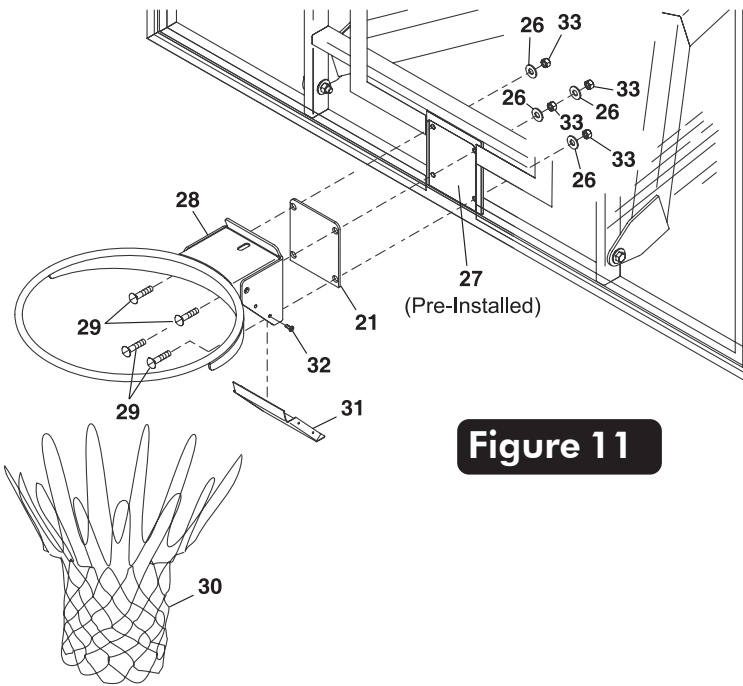

Figure 11
- Remove protective backboard covering and mount Goal Assembly (#28) and Rim Pad (#21) to Spacer Plate (#27), and Backboard, as shown in Figure 11, using four bolts (#29), four washers (#26), and four locknuts (#33). Tighten fasteners finger tight, leave them loose enough to level rim.
- Attach Rim Cover Plate (#31) using four screws (#32). See Figure 11.